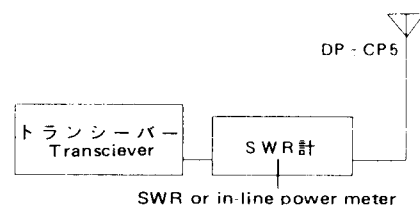

Fig. 5
- 2 Place the transceiver in transmit at desired frequency in each band where you usually operate. While observing vswr or reflected power, adjust radial element for lowest vswr or reflected power. Refer typical adjustment length of each radial element to Table 1. (See Fig. 5)